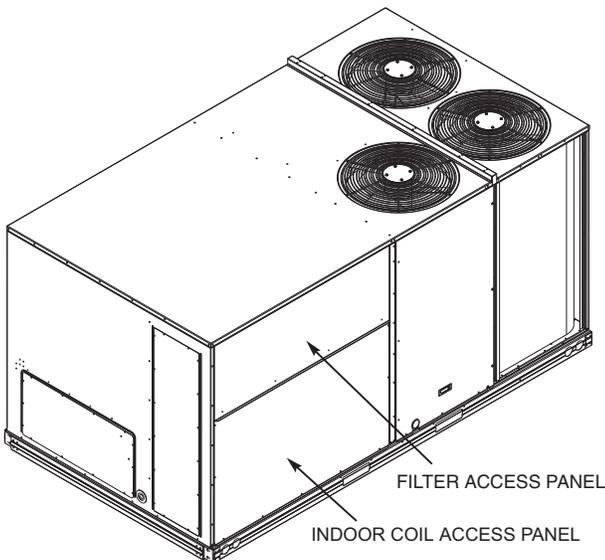

Fig. 13 — Typical Access Panel Location
2. To gain access to the hood, remove the filter access panel. (See Fig. 13.)